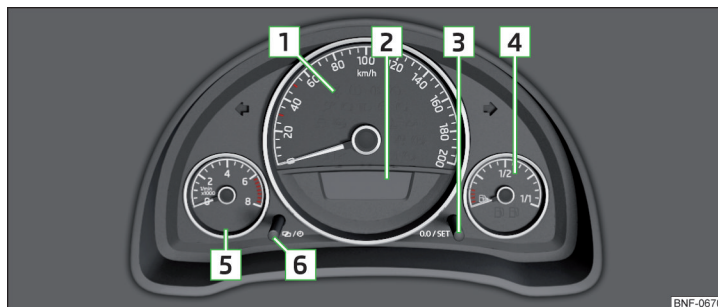
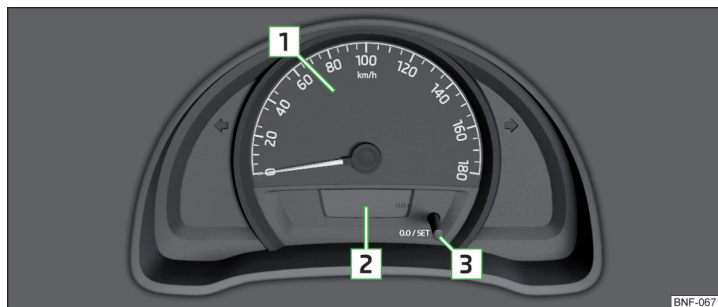

Fig. 18 Instrument cluster - Version 1
Fig. 19 Instrument cluster - Version 2
The tachometer **5** » Fig. 19 on page 28 shows the actual engine speed per minute.
» Press down on button » Fig. 18 on page 28 » Fig. 19 on page 28 briefly.
- » Press and hold the » Fig. 18 on page 28 or » Fig. 19 on page 28 button.